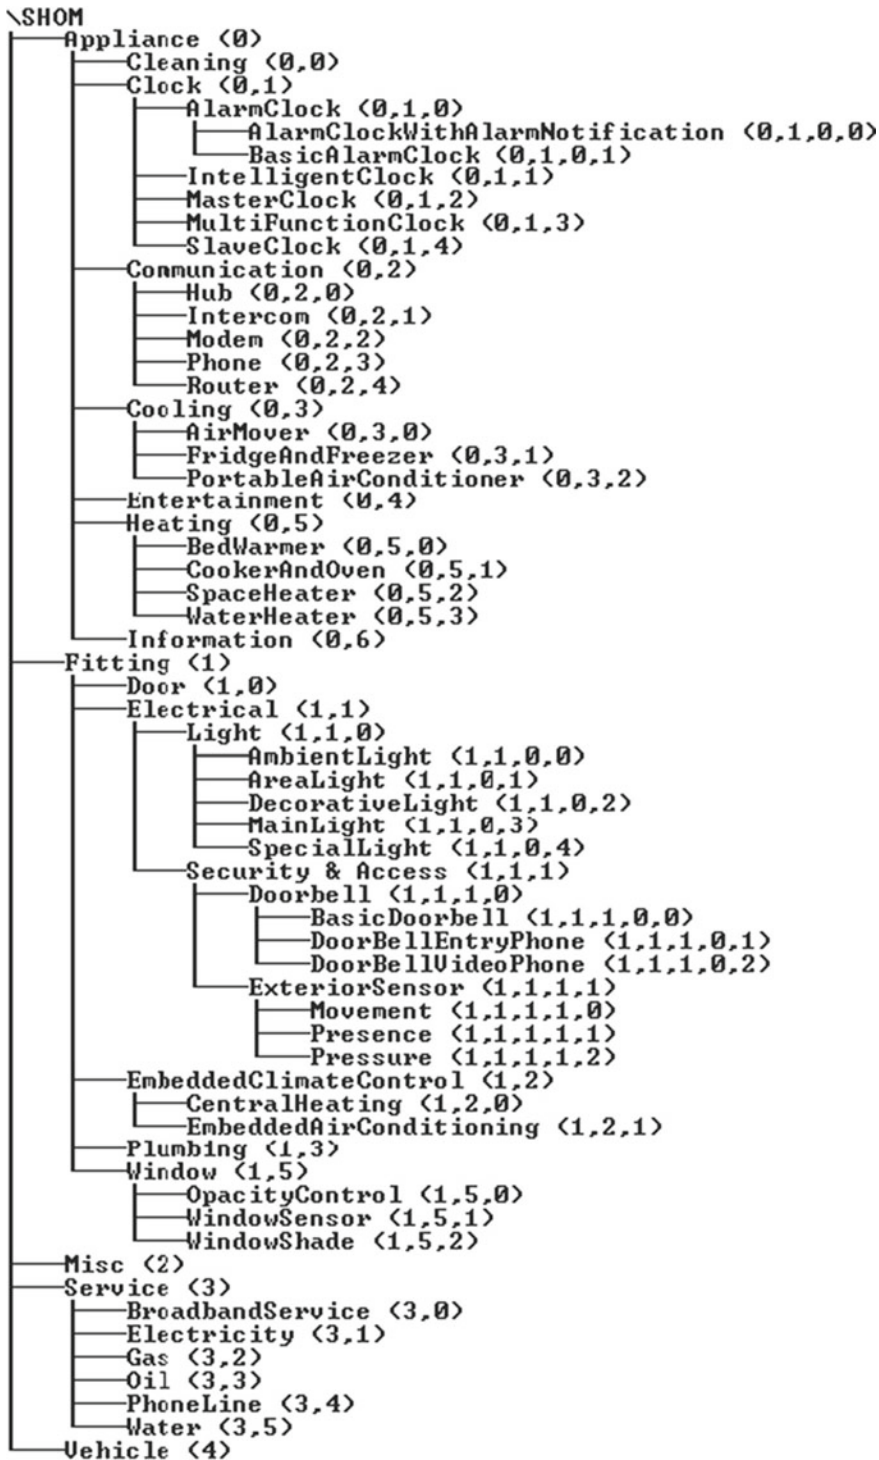

Figure 6-9. SHOM hierarchy—addressed version
To build our model, what we need to do is assign a sequential index number (starting from zero) to each item at each level in the hierarchy. This is rather like assigning an address to every house in a street that's just been newly built. That's what we do in Figure 6-9.
- To allow for updates, the object model itself would need to have an embedded version number. This could either be done by replacing the `\SHOM` at the top of the map (see Figure 6-9) with a name that includes the version number (e.g., `\SHOM_V2.1.7`) or simply by prefixing the `\SHOM` root with a version number and bumping that number whenever necessary. For example, referring to Figure 6-9, instead of communication hubs being 0,2,0 they would (in, say, SHOM version five) be 5,0,2,0.